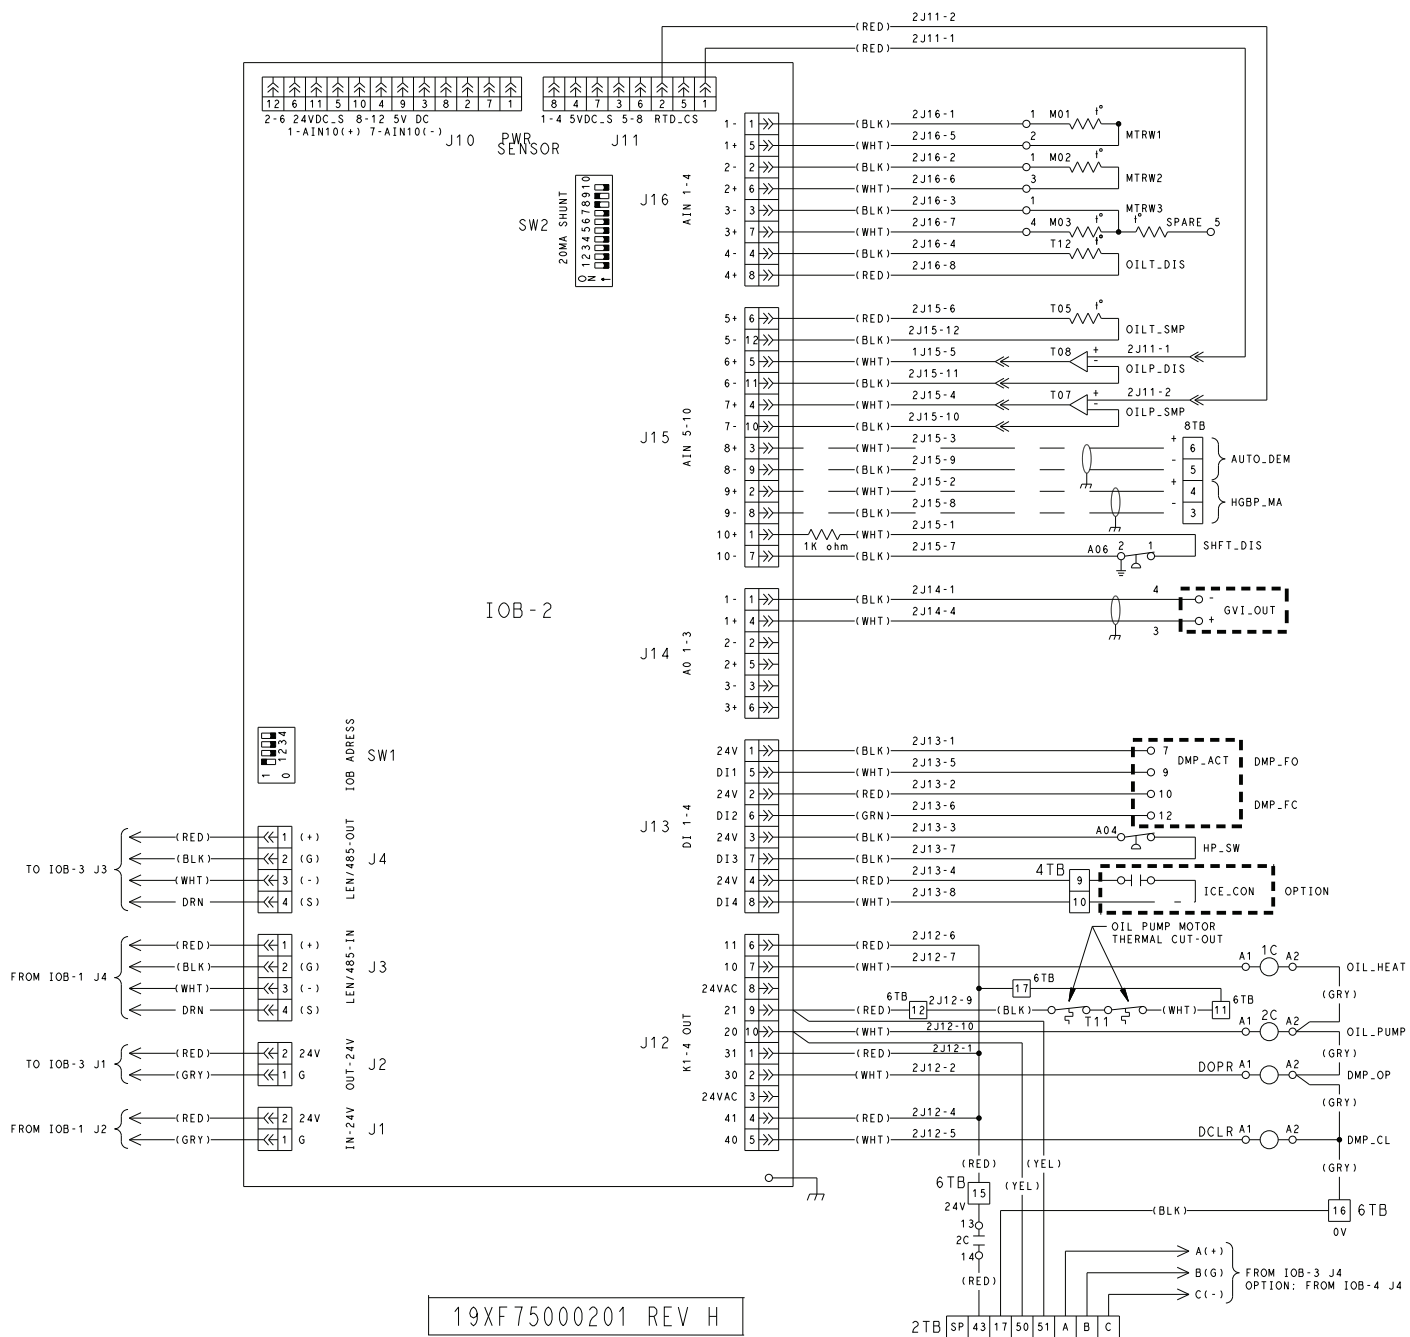

Fig. 13 — 19XR6/7 IOB2
1. See Fig. 13 for IOB2 wiring diagram.
2. For pressure readings, only Vout (output) terminal is indicated. See Fig. 13 for Vin (+) and ground (–).